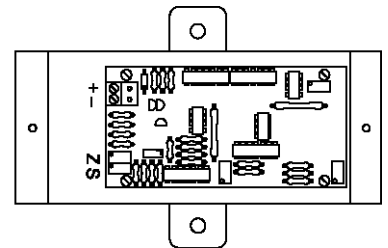

Figure 3. Duct Pressure Transducer With mA Output
Use 12 AWG wire maximum for wiring terminals. See Figures 3 through 8.
- Remove the blue terminal block by carefully pulling it off the circuit board. See Figure 3.